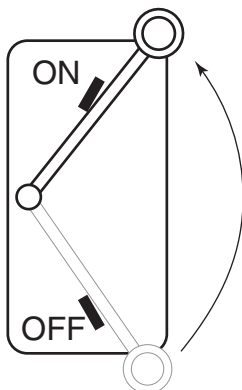

Figure 13: Start Pump
2. Start Pump (Figure 13): Pressure should build rapidly to 50 pounds per square inch or more as ejector and pump prime.